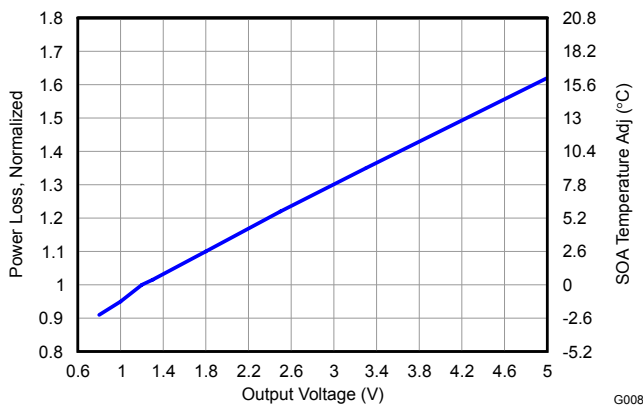

Figure 14. Normalized Power Loss vs Output Voltage
- Normalized Power Loss for output voltage  $\approx$  0.95 (Figure 14)
- SOA adjustment for output voltage  $\approx$  -1.3 $^{\circ}$ C (Figure 14)